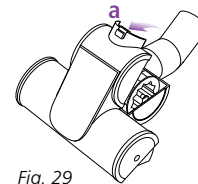

Fig. 29
- Slide the locking latch **(a)** forward and gently tilt brush housing upward to open. **(Fig. 29)**